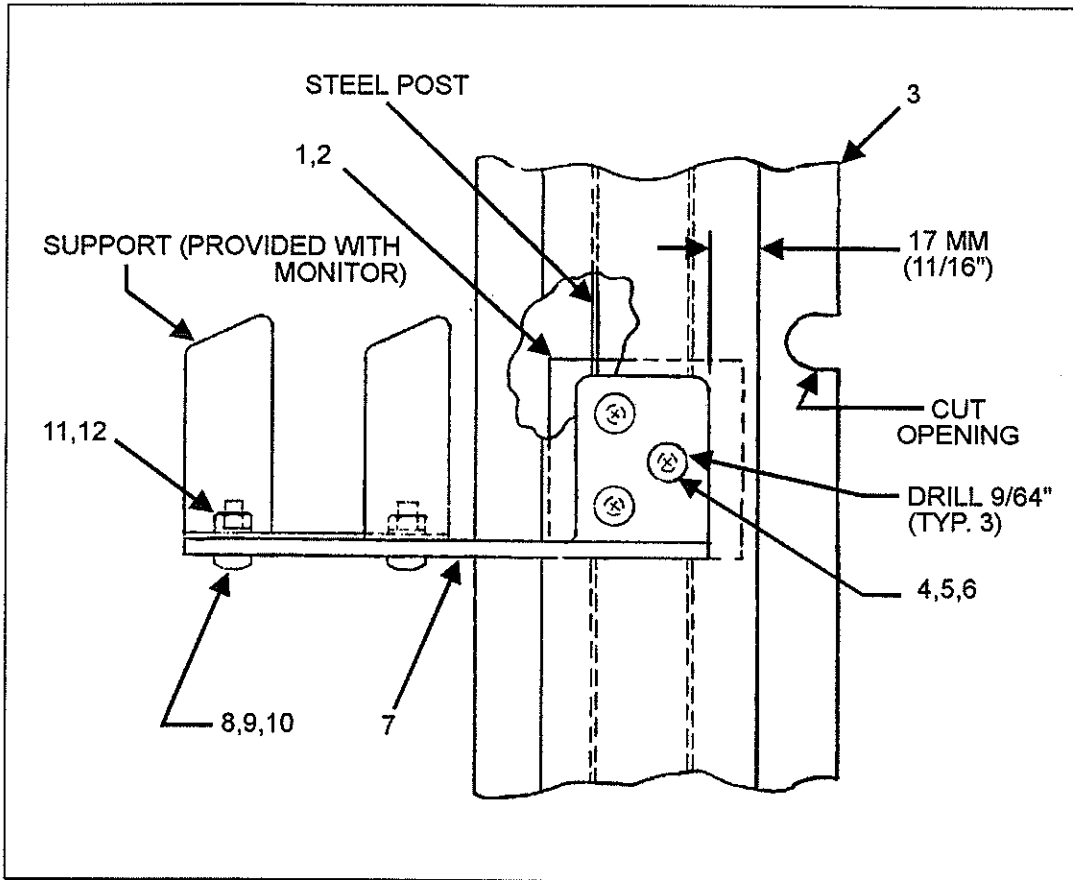

FIGURE 3
13. Cut an opening (half moon) on side of new moulded plastic trim as shown in figure 3. Cut opening large enough to allow harness and cable to be routed between trim and post.
16. Position mounting bracket (7) on plastic trim's outer face (3) at the same height as spacer (1) has been installed previously, then mark position of the 3 holes to be drilled.
18. Fix mounting bracket (7) to post using 10-32 x 1" screws (4) and flat washer bases (5). Install snap caps (6).
19. Install mounting bracket (provided with monitor) on mounting bracket (7) using 8-32 x 5/8" screws (8), flat washer bases (9), flat washers (12) and nuts (11). Install snap caps (10).